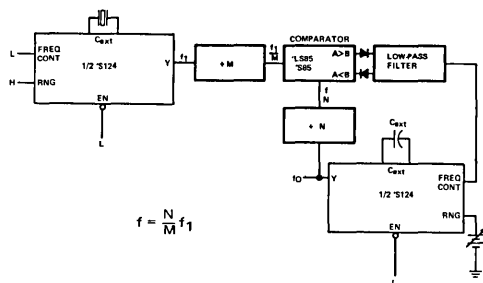

FIGURE 2—HIGH-FREQUENCY PHASE-LOCKED LOOP
- In another method, the comparison of $\frac{f_1}{M}$ and $\frac{f}{N}$ can be performed with either an SN54LS85/SN74LS85 or SN54S85/SN74S85. The resultant $A > B$ and $A < B$ outputs from the 'LS85 or 'S85 permit the detector to be simplified to a charge-pump circuit. See Figure 2.